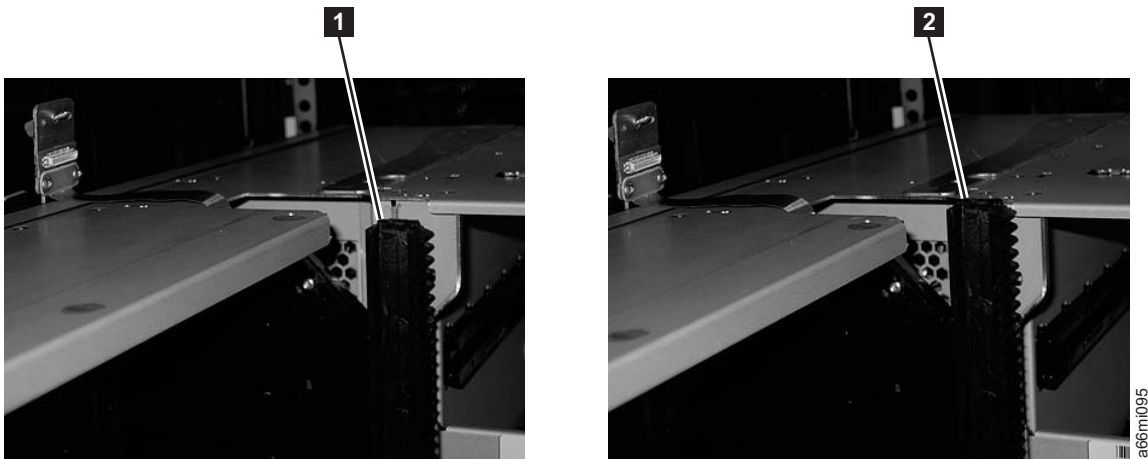

Figure 8-5. Gear racks (down and up)
1. Ensure that the front and rear gear racks are in the upper position (see **2** in Figure 8-5).